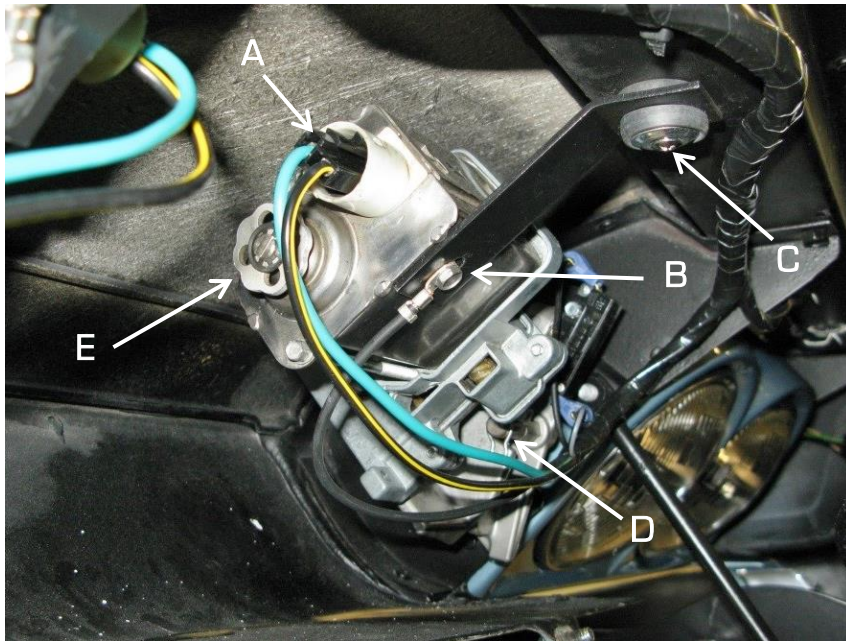

Figure 2 - Remove OEM Motor
1. The new headlight kit will be connected to the existing 30 Amp circuit breaker for the original electric headlight door system that is located under the dash in the driver's side A-pillar/ kick panel area (Figure 2 on the next page). This circuit breaker will need to be located and the original headlight door system power wire will need to be disconnected leaving the battery feed connected to the circuit breaker. There are several circuit breakers in this area that look the same so you will need to disconnect the circuit to determine which one is the correct circuit breaker. Disconnect the battery and look at the circuit breakers under the dash to try to determine from the wire routing which one is connected to the headlight door system.